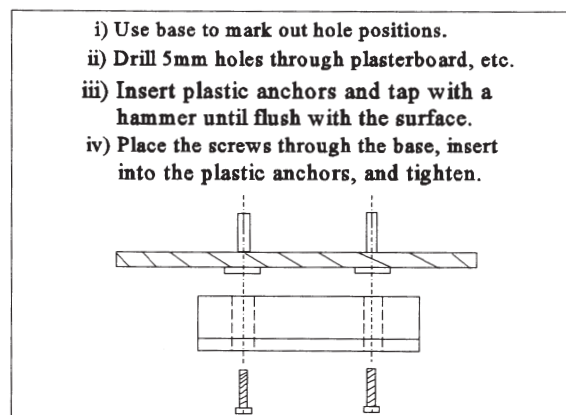

Figure 2.
4. Unlatch the Smoke Detector base from the housing and use the screws and nylon anchors provided to secure the base to the ceiling. See **Figure 2**.